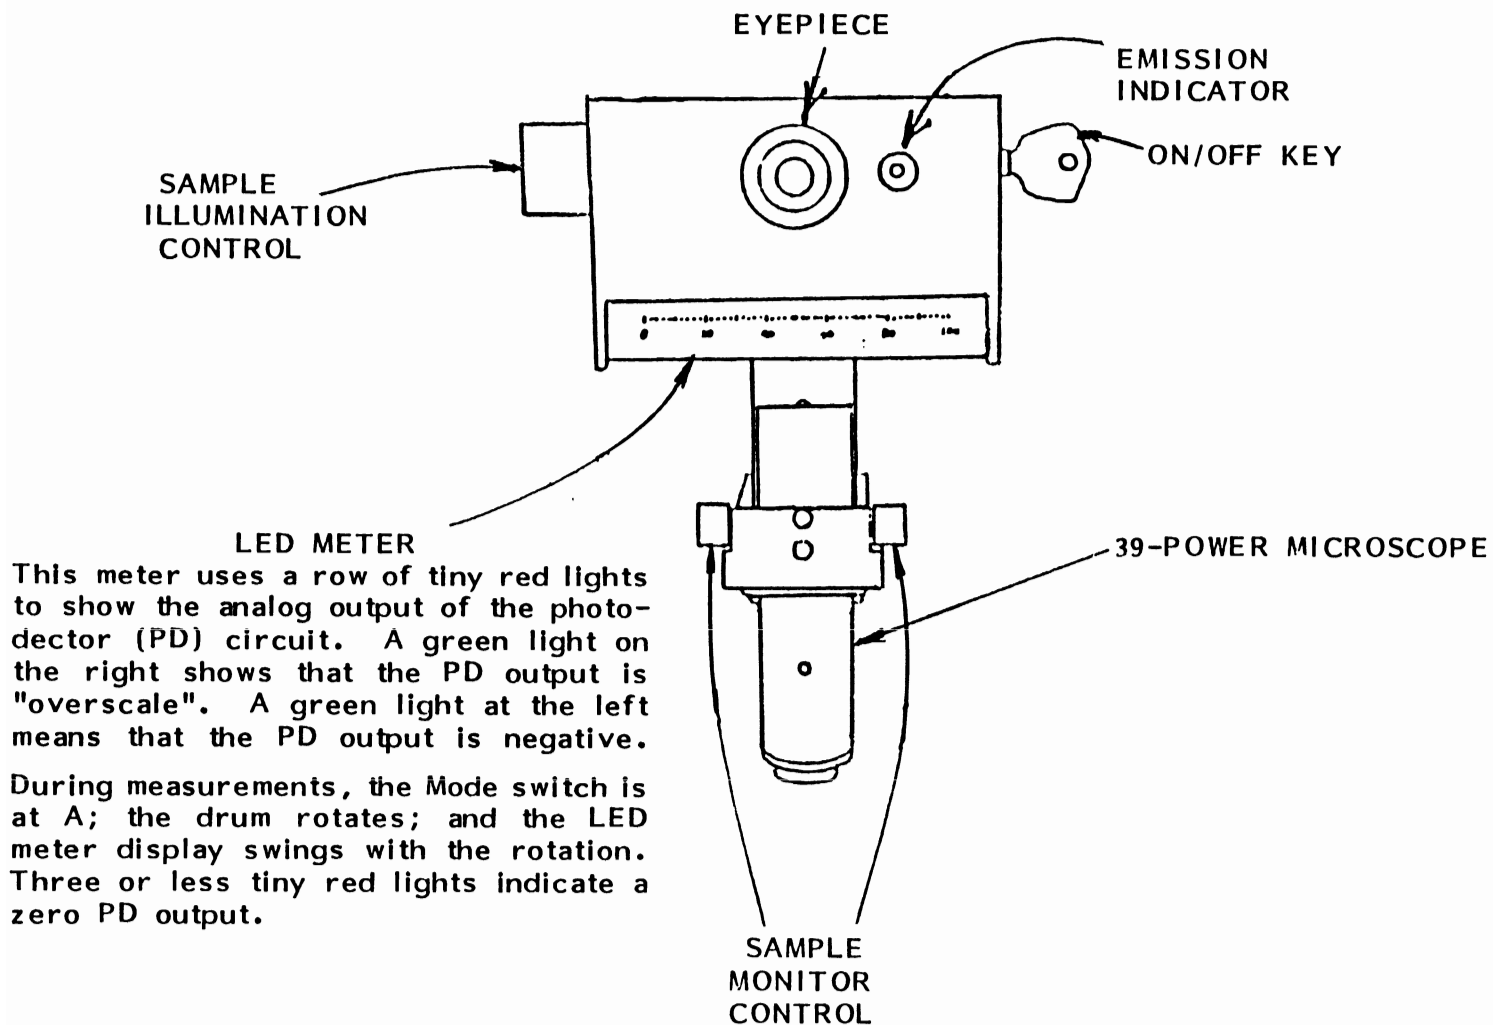

Figure 2-2 These are the ellipsometer controls and indicators on the Sample Monitor Assembly.
- b. To turn on the ellipsometer and the 632.8 nm (red) laser, turn the key-operated power switch on the Sample Monitor Assembly fully clockwise, ON (Figure 2-2). The Emission Indicator should illuminate. A 15-minute minimum warmup of the 632.8 nm laser is recommended before performing ellipsometric measurements. Set the Mode (toggle) switch (Figure 2-1) to AS. The following describes the three Mode switch positions:
- Manual (M) position: This is used during alignment and calibration
- Autoset (AS) position: This is used during premeasurement setup (sample stage alignment)
- Automatic (A) position: This is used for automatic measurement (with the drum rotating)
- d. Rotate either of the Sample Monitor Control knobs in Figure 2-2 so that it brings a reflected image of the two diagonal lines into view (if already not in view), as seen in the eyepiece.